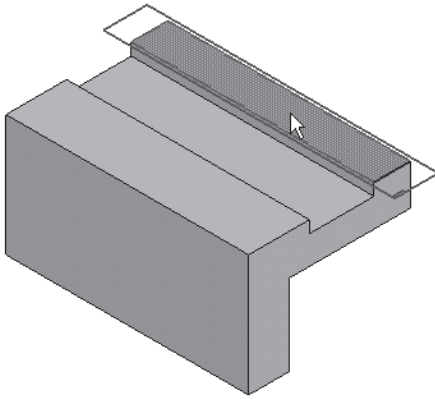

Figure 4-58 Specifying the orientation of the sketching plane for the second feature
1. Move the cursor over the top face of the base feature and then press the N key to orient the sketching plane, as shown in Figure 4-58.